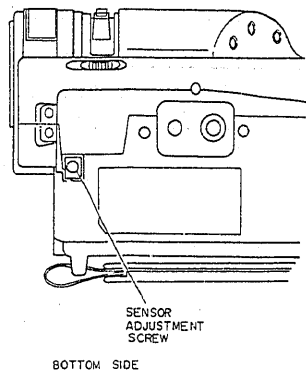

Fig. 4-12
(1) Autofocus Sensor Position Adjustment (Fig. 4-12)